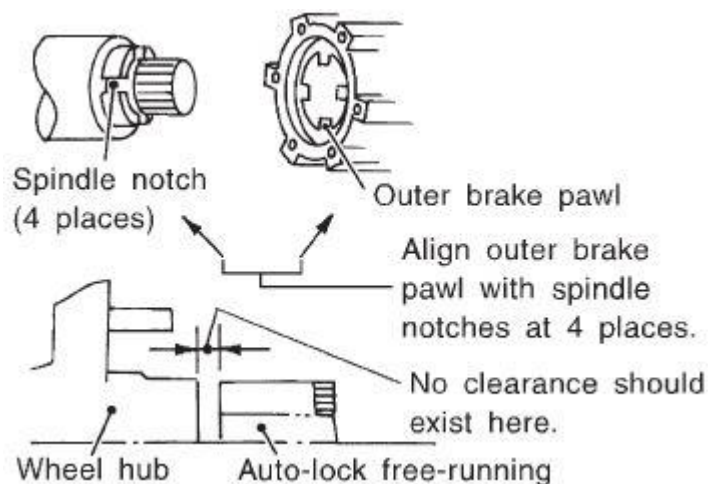

Fig 22
- For **automatic hubs**: When installing auto-lock free-running hub assembly, be sure to align outer brake pawl with notch in spindle. After inserting auto-lock free-running hub assembly into bore in wheel hub, make sure there is no clearance between hub assembly and wheel hub (refer to fig 22). If clearance exists, the cause may be one of the following:
- (1) Hub assembly is set in "LOCK" position.
- (2) Outer brake pawl is not aligned with notch in spindle.